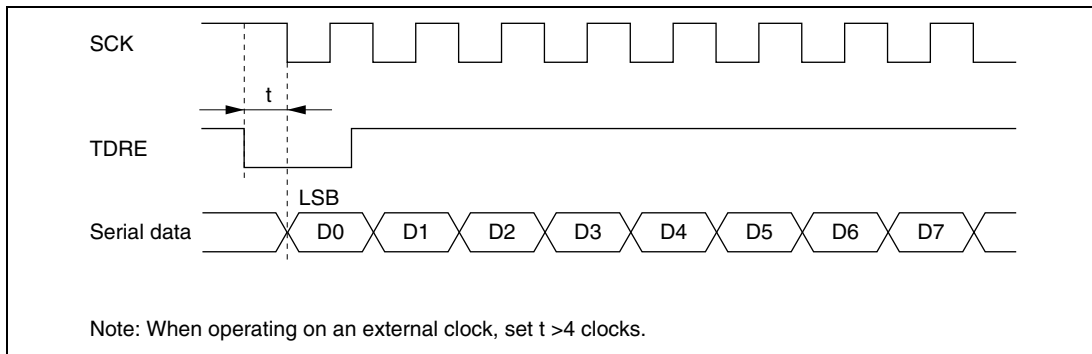

Figure 16.24 Example of Clocked Synchronous Transmission by DTC
(7) Restrictions on Use of DMAC or DTC
- When an external clock source is used as the serial clock, the transmit clock should not be input until at least 5 ϕ clock cycles after TDR is updated by the DMAC or DTC. Misoperation may occur if the transmit clock is input within 4 ϕ clocks after TDR is updated. (Figure 16.24)